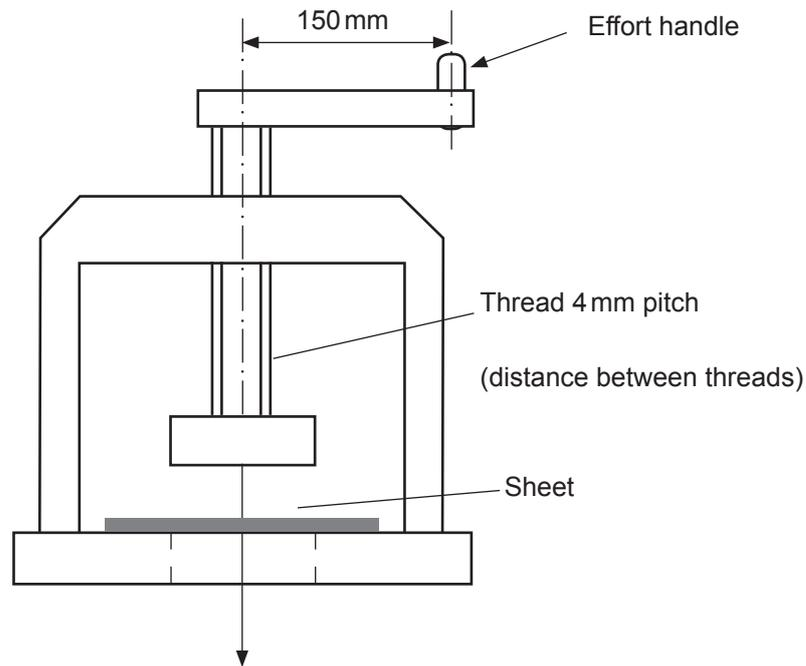

Fig. 8
- (d) Look at **Fig. 8**. It shows a machine that is used to press discs from sheets of material.